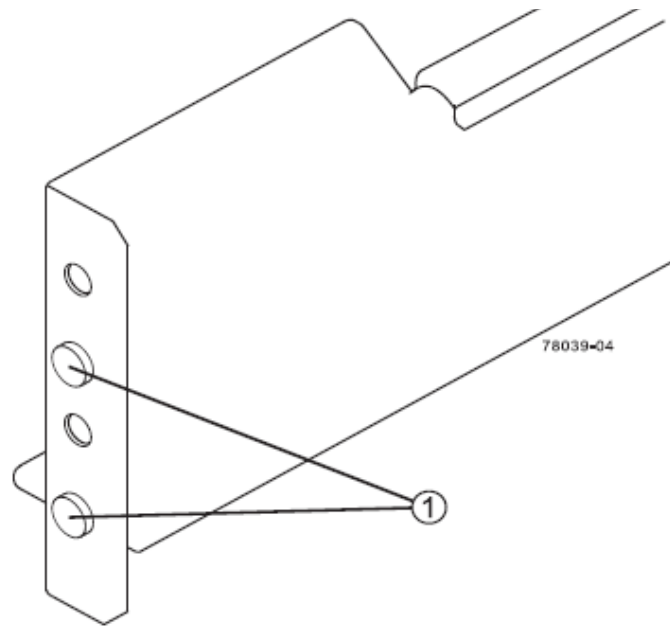

Figure 2-9 Alignment Spacers on the IS2224 Mounting Rail
Figure 2-9 shows an example (1) of the alignment spacers on an IS2224 mounting rail.